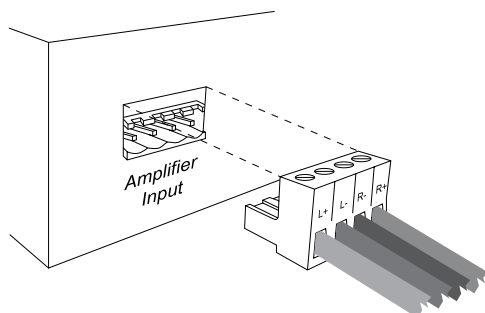

Figure 2
4. Install the connectors to the SP4-200 / SP6-200 (**Figure 2**).